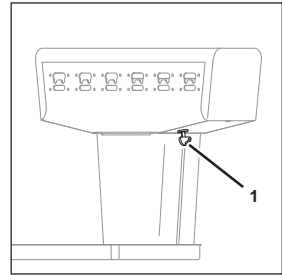

Fig. 8
1. Turn the key switch (Fig. 8/1) to position "0".